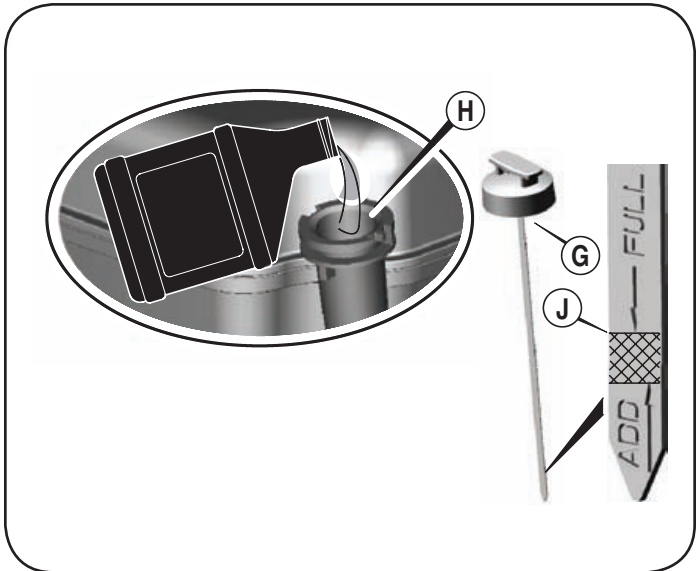

Figure 14
1. Remove oil fill dipstick (G). See Figure 14.
2. With the mower on level ground, empty entire contents of oil bottle provided into the engine oil fill (H).
3. Insert and tighten the oil fill dipstick. Remove it to check the oil level. See Figure 14.
4. If the oil level is near or below the lower limit mark on the dipstick, remove the oil fill dipstick, and fill with the recommended oil to the upper limit mark (J). Do not overfill.